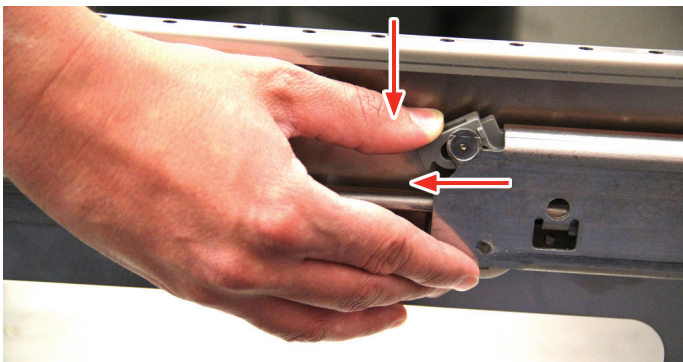

Fig. 16
3. Locate the drawer lock on the front of each drawer slider. Push down and pull the drawer locks toward the front of the drawers until they spring upward (Fig. 16).